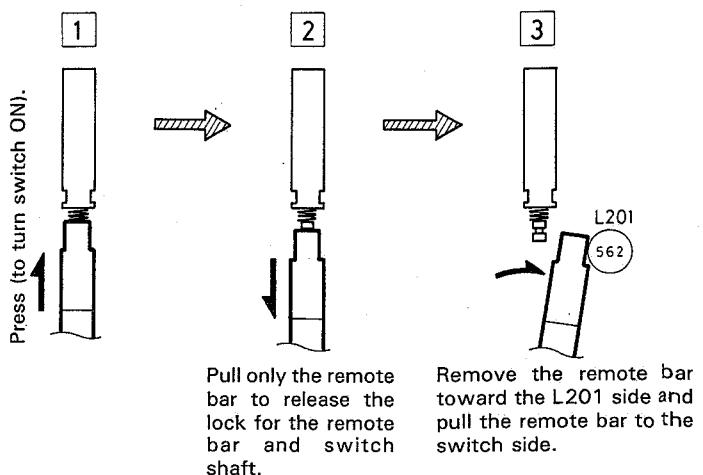

Fig. 2-6
8. Remove the screw ⑯ that is tightened with the headphone grounding.
9. Remove the CD direct switch bar (see Figure 2-6).
- ① Turn the switch ON.
- ② Pull the remote bar only from position ①.
- ③ Remove the remote bar (from the switch shaft on the L201: 562 side and remove by pushing to the back).